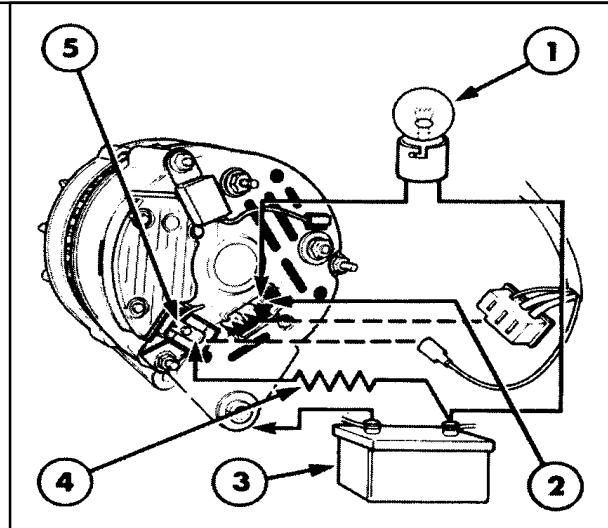

Figure 16
1. With reference to Figure 16. Connect a 12 volt battery and a 2.2 Watt test lamp in series between the "IND" terminal and the alternator frame (negative side to frame).